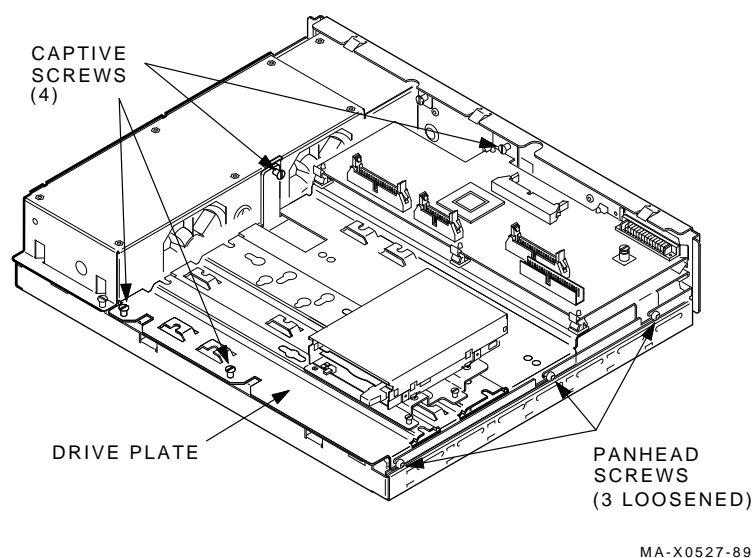

Figure 3-3 Removing the Drive Mounting Plate
2. Unscrew the four captive screws, loosen the three panhead screws (Figure 3-3), and remove the drive mounting plate.